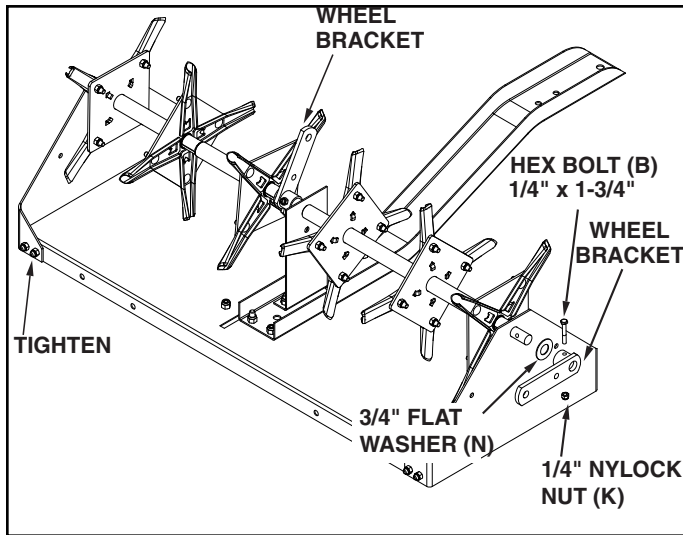

**FIGURE 7**
- Assemble the tongue using four 3/8" x 1-1/4" hex bolts (C), four 3/8" whizloc nuts (P), and four 1/4" nylock nuts (I). Tighten. See figure 7.